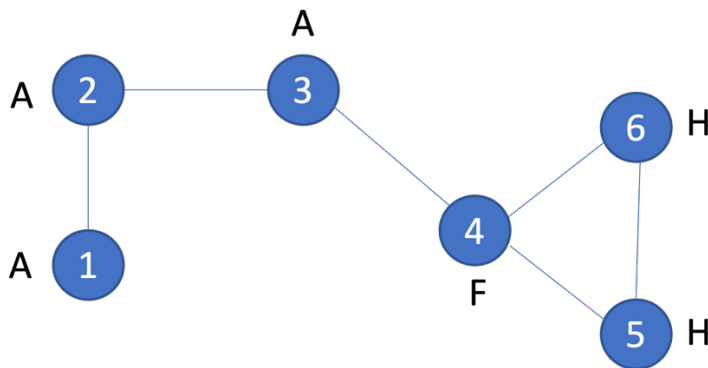

Figure 3. The graph for movie classification.
In this lab, you will design a graph convolutional network (GCN) module for a node classification application. The input graph is given in Fig. 3 with ground truth label shown next to each node. Each node in the graph represents a movie. By using GCN, we classify each node into one of three genres: Action (A), Humor (H) and Family (F). Due to the associative nature of Matrix multiplication, either Feature transformation or aggregation can be performed first. As for the activation function you will use an **argmax function** (Argument max) to perform the classification on the final output.